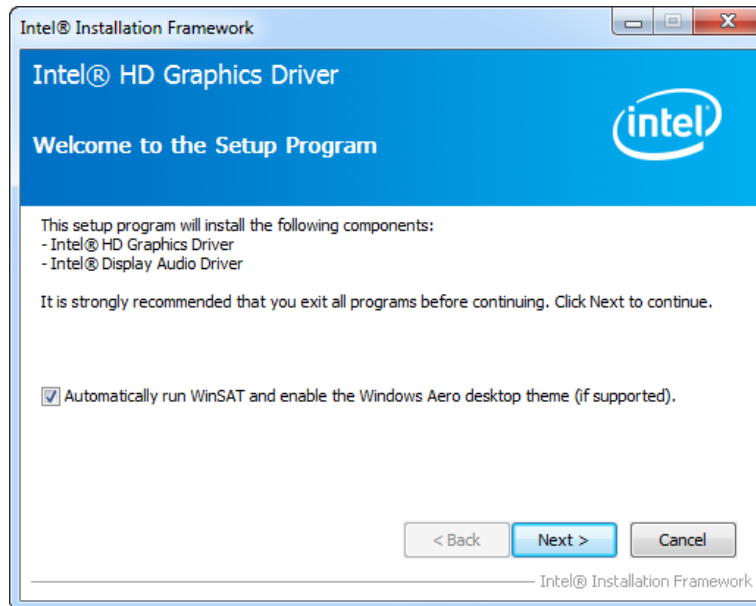

Figure 8-10: Graphics Driver Welcome Screen
Step 8: The **Welcome Screen** in **Figure 8-10** appears.